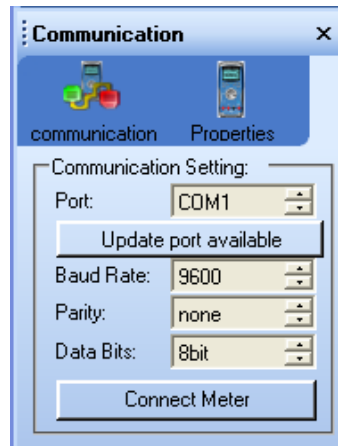

Figure A-2 Communication panel
- 4 Click on the Communication panel. Set the settings according to the meter's setup settings—Baud rate, Parity and Data bit. Then, select the Port (figure A-2) on your PC that the instrument is connected to.